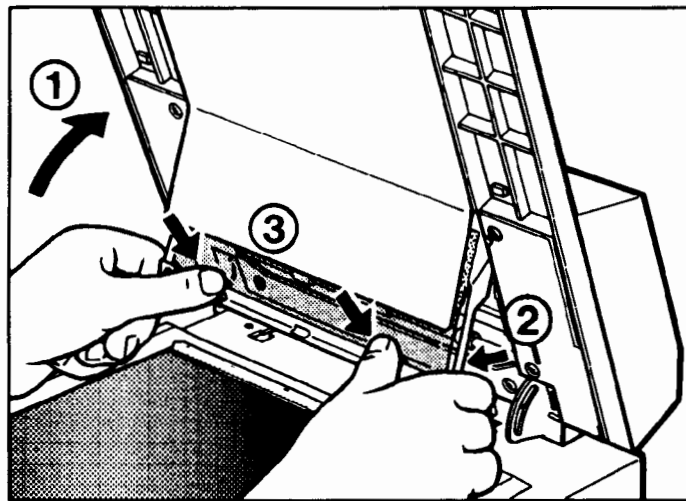

Figure D-13. Removing the Mylar Guide
3. To remove the guide, grasp the two metal clips which hold the guide in place and push down as illustrated in figure D-13.